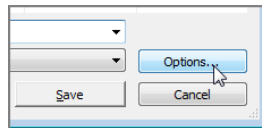

FIGURE 1.51: The Options button in the Save As dialog lets you choose how the file is saved.
2. In the Save As dialog, click the Options button in the lower-right corner (see Figure 1.51).